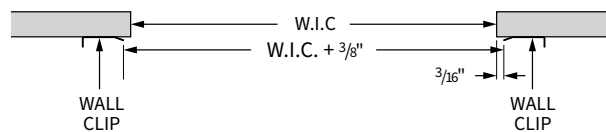
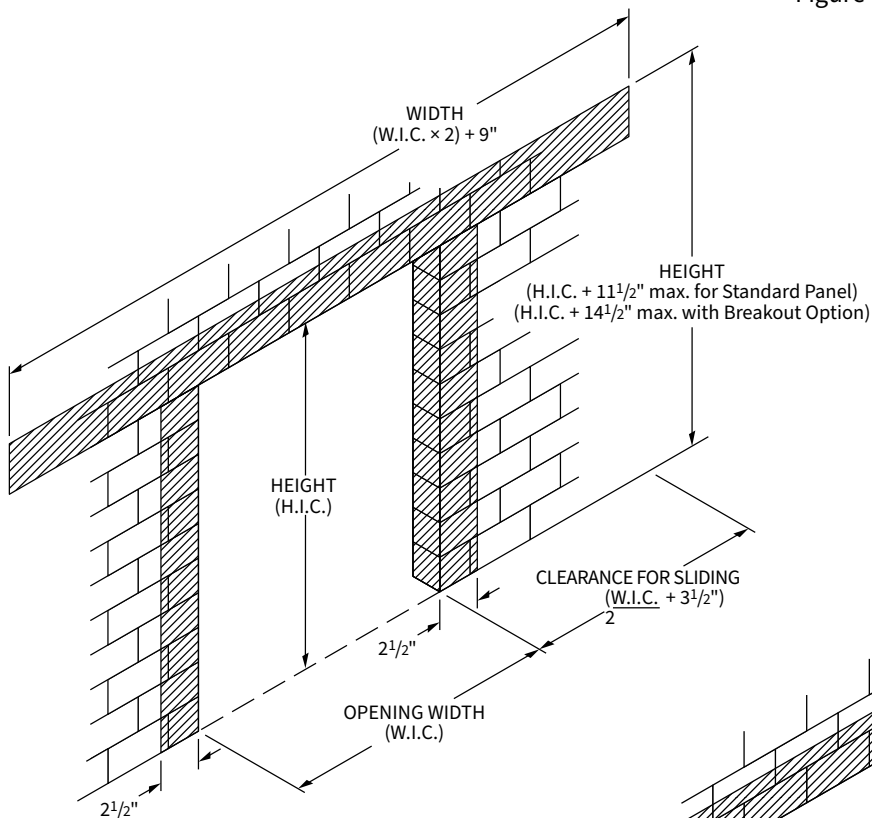

Figure 2: Wall Clip Position
Figure 3: Door Measurements
1. Measure door opening to verify door dimensions (Figure 3). Based upon dimensions in Figure 3, determine that door will have sufficient wall space to open. The side frames will fit flush to the edge of the opening.
1. Attach the wall clips to the wall flush with the edge of the opening, leaving the bottom 2 bolt holes open for the floor hardware (Page 7, figure 2).
1. Measure door opening to verify door dimensions (Figure 3). Based upon dimensions in Figure 3, determine that door will have sufficient wall space to open. Locate side frames relative to the sides of the opening as shown in Figure 2.